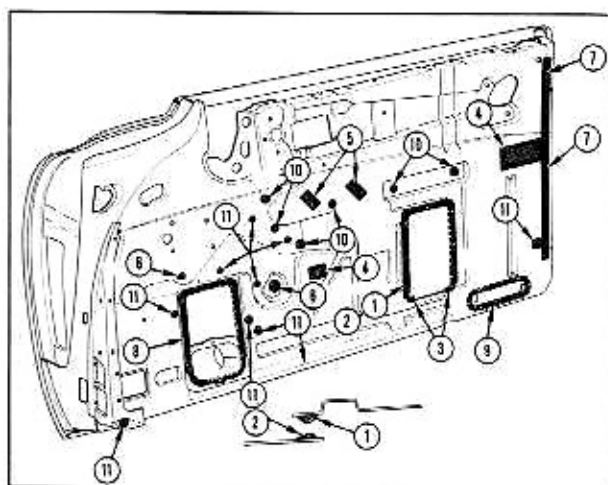

Fig. 3-15 Door Inner Panel Sealing
When following the procedure, refer to Fig. 3-15, in which the areas to be sealed are numbered to conform to the numbered steps in the procedure.
2. Apply ribbon of medium-bodied sealer to lower side flanges of loading hole cover before it is installed. This seal should extend upward approximately three (3) inches.
3. After loading hole cover is installed, seal lower corners of plate at offset with medium-bodied sealer. Fig. 3-15.